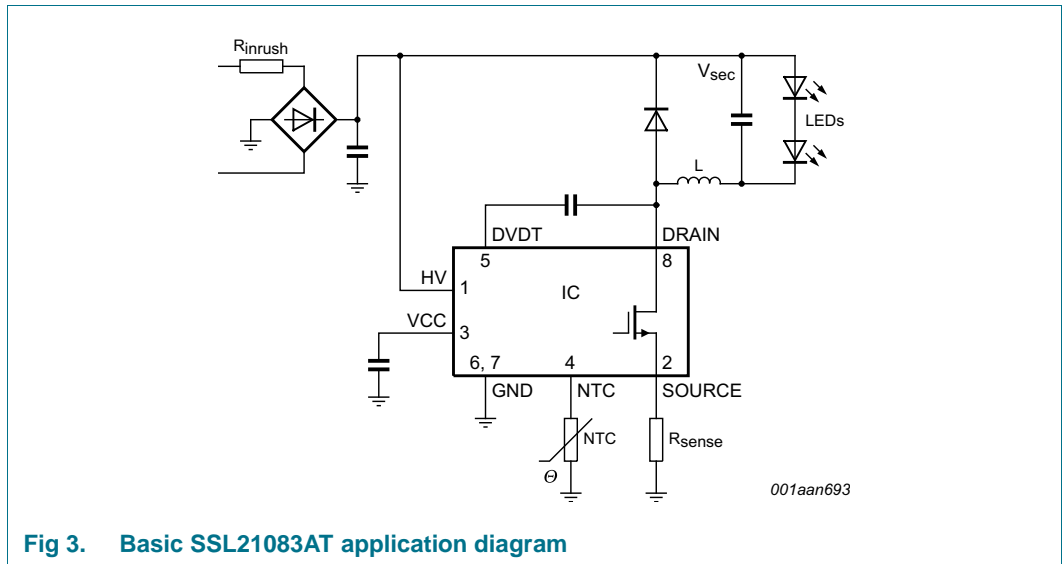
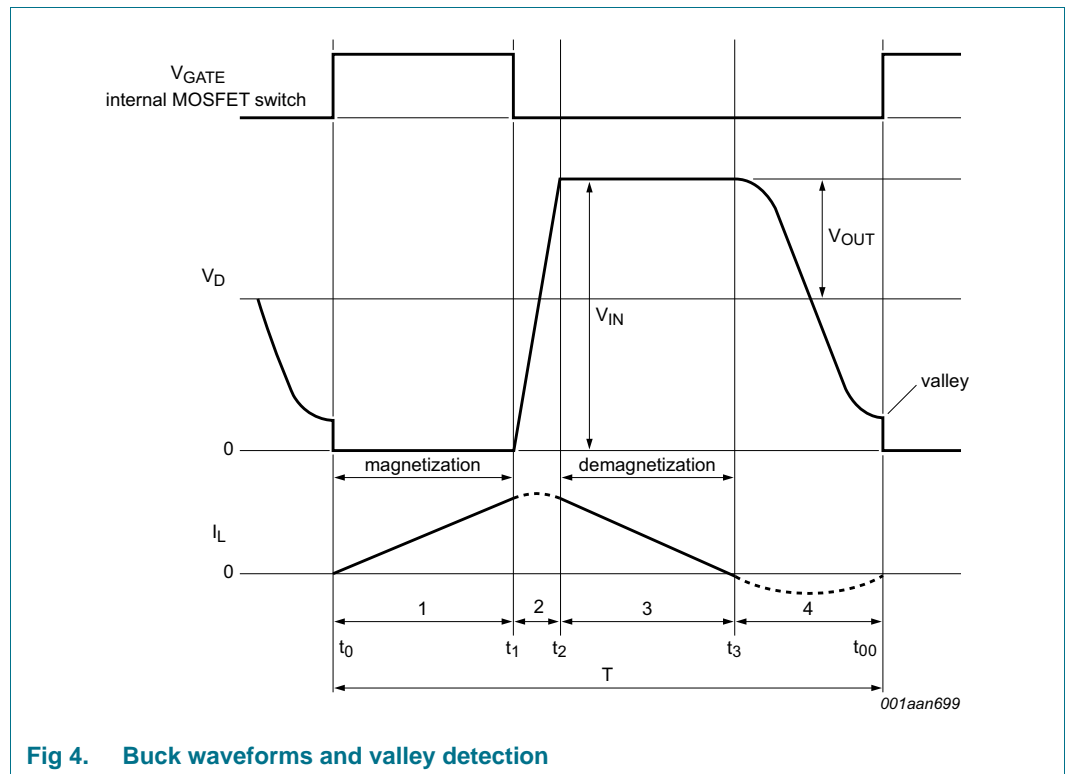

Fig 3. Basic SSL21083AT application diagram
Fig 4. Buck waveforms and valley detection
- Low component count LED driver solution (see Figure 3):
The converter in the SSL21083AT is a Boundary Conduction Mode (BCM), peak current controlled system. Figure 3 shows the basic application diagram. Figure 4 shows the waveforms. This converter type operates at the boundary between continuous and discontinuous mode. Energy is stored in inductor L each period that the switch is on. The inductor current I_L is zero when the internal MOSFET switch is switched on. Thereafter, the amplitude of the current build-up in L is proportional to $V_{IN} - V_{OUT}$ and the time that the internal MOSFET switch is on. When the internal MOSFET switch is switched off, the current continues to flow through the freewheel diode and the output capacitor. The current then falls at a rate proportional to the value of V_{OUT} . The LED current I_{LED} is almost equal to half the peak switch current. As soon as the inductor current I_L is zero, a new cycle is started.
A new cycle is started when the primary switch is switched on (see Figure 4). Following time t_1 , when the peak current is detected on the SOURCE pin, the switch is turned off and the secondary stroke starts (3). When the secondary stroke is complete and the coil current at t_3 equals zero, the drain voltage starts to oscillate around the $V_{IN} - V_{OUT}$ level. The amplitude equals V_{OUT} . A special feature, called valley detection is an integrated part of the SSL21083AT circuitry. Dedicated built-in circuitry connected to the DRAIN pin, senses when the voltage on the drain of the switch has reached its lowest value. The next cycle is then started and as a result the capacitive switching losses are reduced.